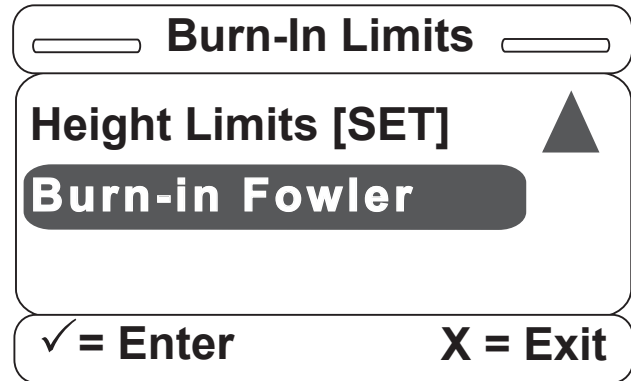

Figure S-30
28. Once the lock button is released, the message “Height Limit Set” will be displayed and the user will be returned to the screen in Figure S-30 (The height limits are now burned in.) The “SET” text indicates that the limits are set. The process is similar for the Burn-in Fowler routine.